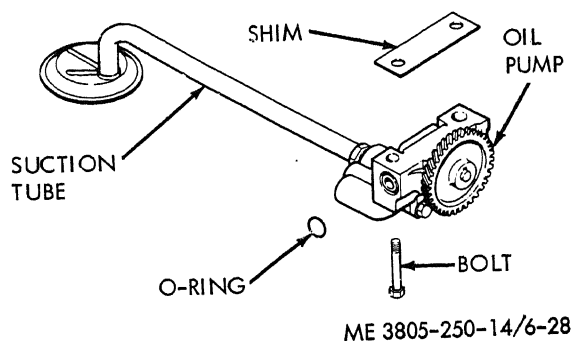

Figure 6-28. Oil pump, removal and installation.
- (1) Drain the oil from the oil pan and remove oil pan (para 6-11).
- (2) Remove the oil pump suction tube (fig. 6-28).
(3) Remove two bolts securing the oil pump to the bearing cap. Remove the oil pump, shims, and preformed packing.